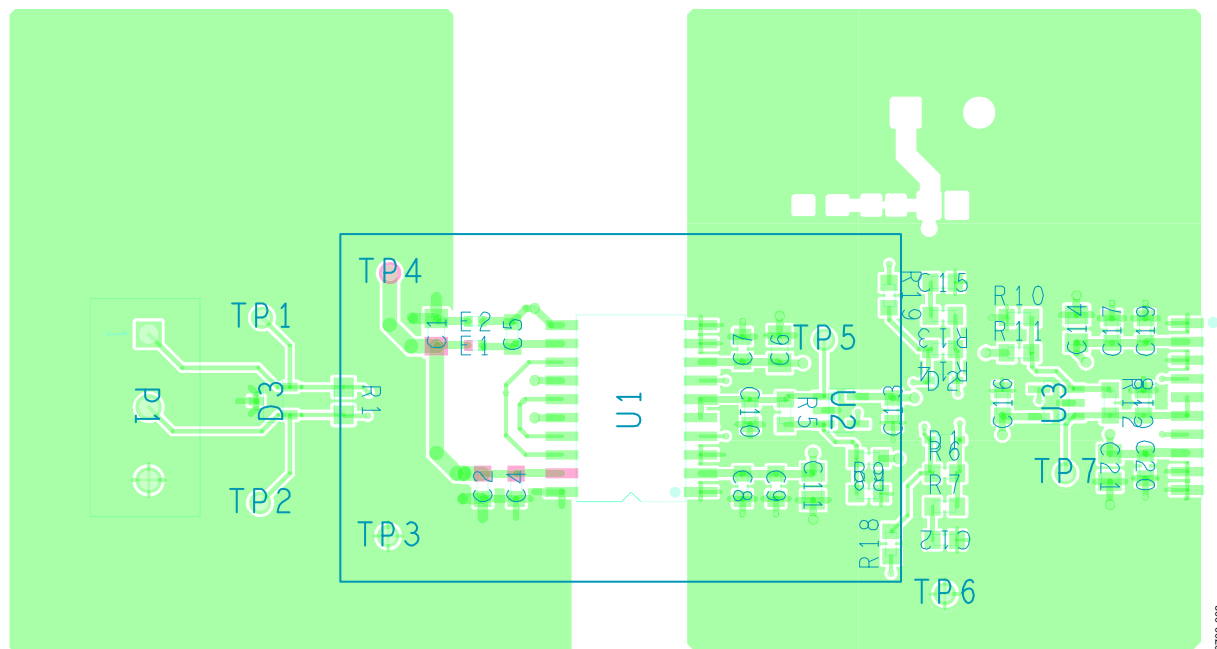

Figure 3. Layout of the EVAL-ADM2587EEB2Z
- Ensure that GND_2 (Pin 16) is connected to GND_2 (Pin 11) on the outside (bus side) of the E2 ferrite, as shown in Figure 3.